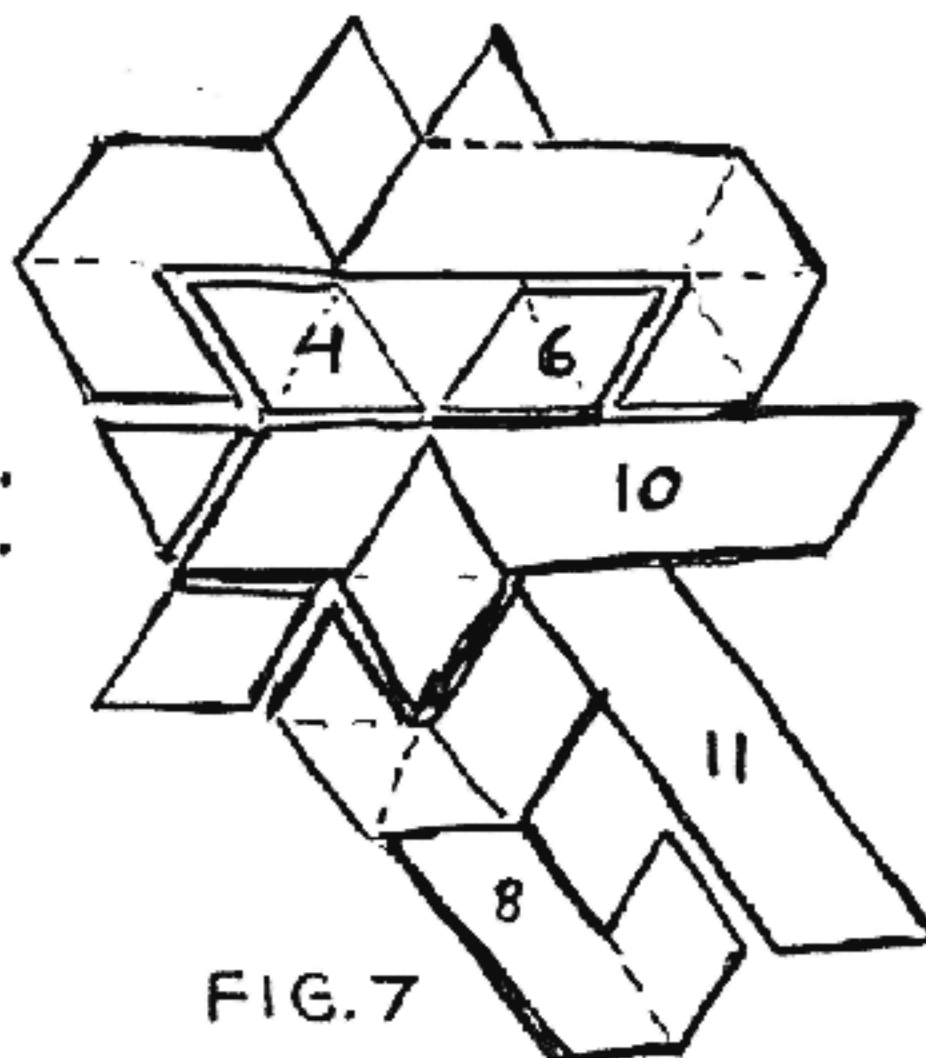

FIG. 7
as shown in Fig. 7. Return piece 10
7. Now the tricky step. Drop pieces D and N down, slide piece M far to the lower right, then piece C one inch to the right in order to insert piece S as shown in Fig. 7. Return piece C left, raise piece N, slide piece S into place, return piece M and raise piece D into place.